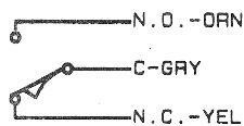

FIG. 13
The ATS provides a signal to indicate removal of the housing cover. The ATS can be wired to an alarm, indicator or console to warn of unauthorized tampering with the lock. The ATS provides a signal via a set of Form "C" dry contacts. These contacts, which are identified in the cover removed (alarm) state are GRAY: common (C), ORANGE: normally open (N.O.) and YELLOW: normally closed (N.C.). With the cover in place, the contacts across the GRAY and ORANGE wires are closed. Removing the cover causes the contacts to open, indicating an attempted tampering with the lock. See Figures 13, 14 and 15 below. The ATS dry contacts are rated 5 amp at 125VAC and 3 amp at 250VDC resistive.